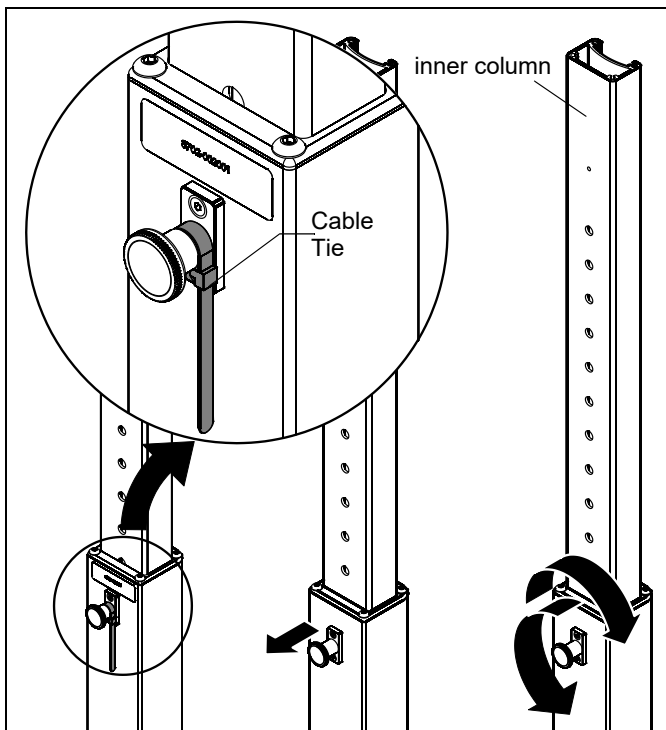

Figure 1
IMPORTANT ! : Press cable tie tab to loosen and remove cable tie from around knob post. (See Figure 1)
1. Lift up slightly on the inner column of center post and hold firmly toward top of post. (See Figure 1)
2. Pull out knob on the center post and turn 90° in either direction to disengage the locking mechanism. (See Figure 1)
3. Raise the inner column and turn the knob 90° in either direction to engage the knob and lock the column in place. (See Figure 1)